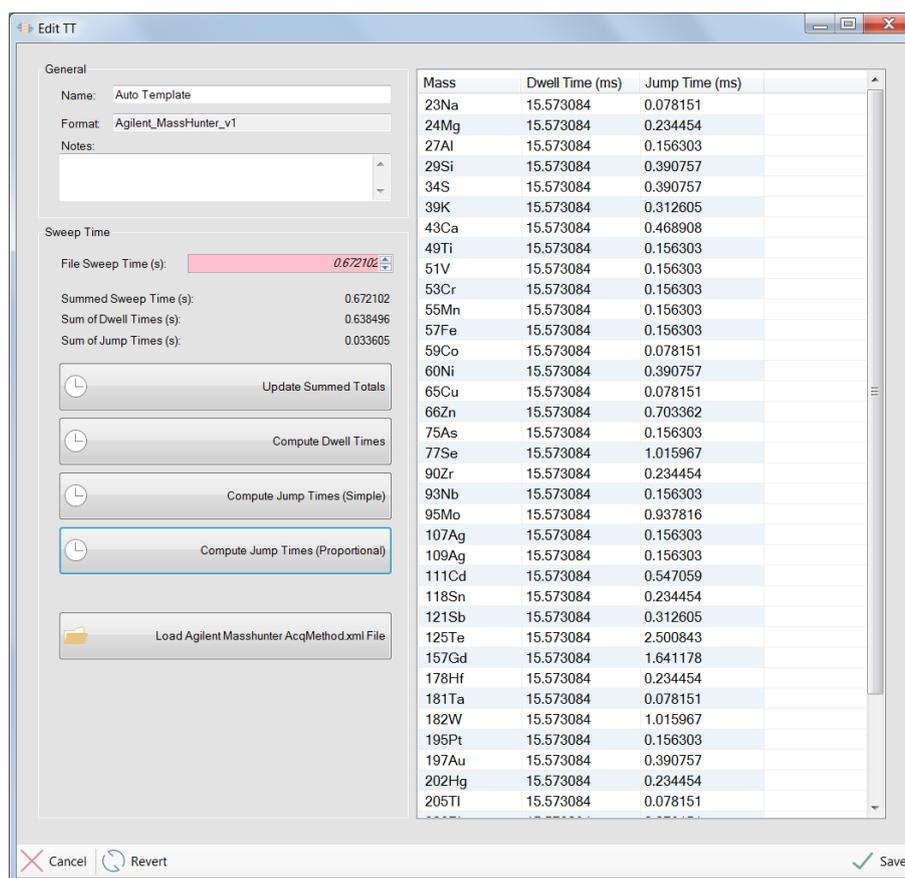

Figure 17 Edit timing template window
**Note:** You must edit the auto timing template and provide the correct dwell times for data processing to work correctly. If the auto timing template contains estimated values, and you do not review or edit those values, then an additional warning will be shown when you click “Save” to load the data, and the Edit Timing Template window will be shown (Figure 17).